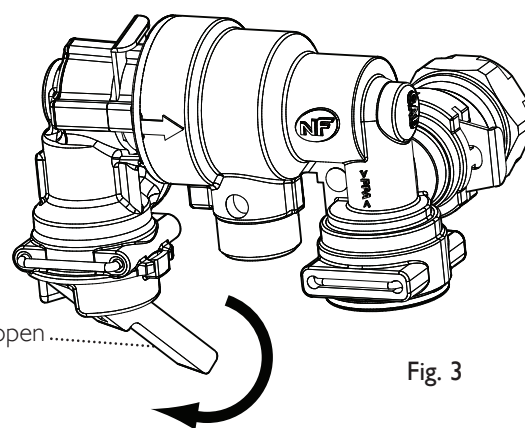
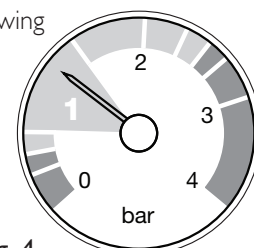

Fig. 3
Fig. 4
• Open the taps and operate the spring loaded green lever (Fig. 3) on the left of the link assembly until the correct pressure is registered on the gauge (Fig. 4). A small volume of water may be discharged from the air break which is normal. Check for leaks from all joints.